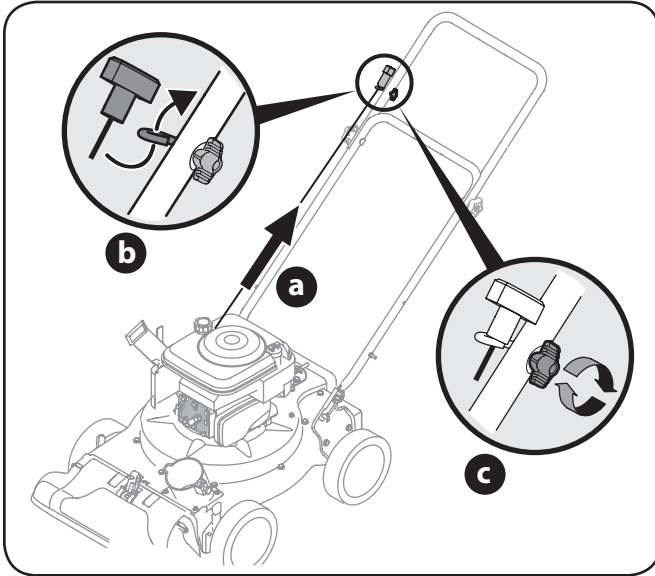

Figure 3-3
- b. Slip the starter rope into the rope guide. See Figure 3-3.